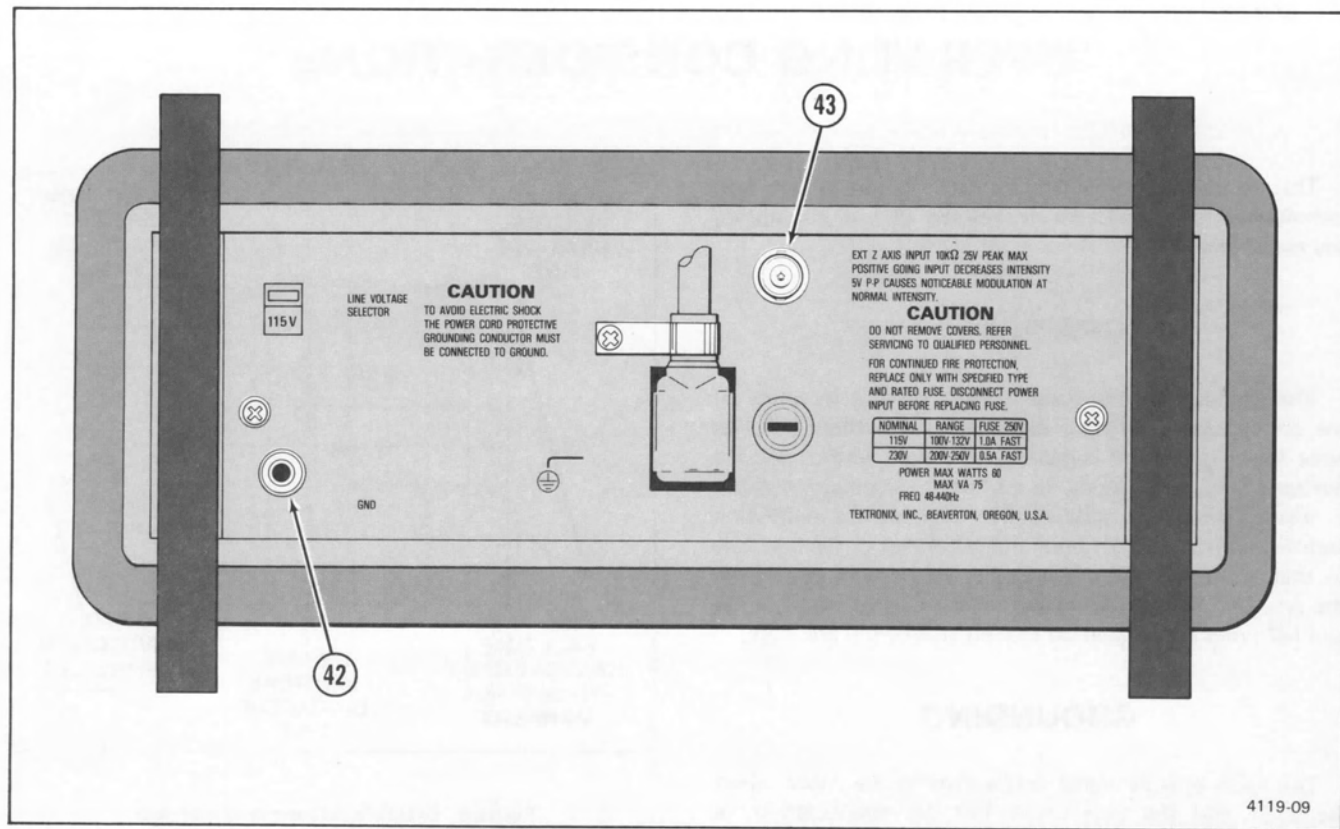

Figure 8. Rear-panel connectors.
Refer to Figure 8 for location of items 42 and 43.
- ④ **GND Connector**—Provides direct connection to instrument chassis ground.
- ④ **EXT Z AXIS INPUT Connector**—Provides a means of connecting external signals to the Z-Axis amplifier to intensity modulate the crt display. Applied signals do not affect display waveshape. Signals with fast rise time and fall time provide the most abrupt intensity change. Positive-going signals decrease the intensity, and a 5-V p-p signal will produce noticeable modulation. Z-axis signals must be time-related to the display to obtain a stable presentation on the crt.